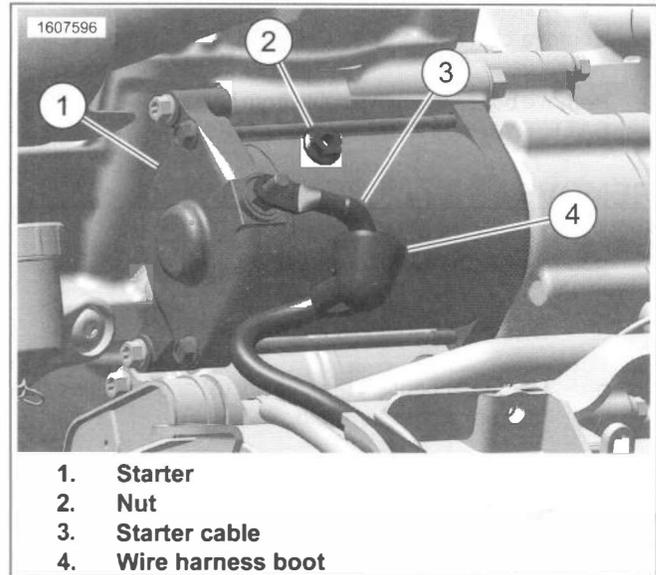
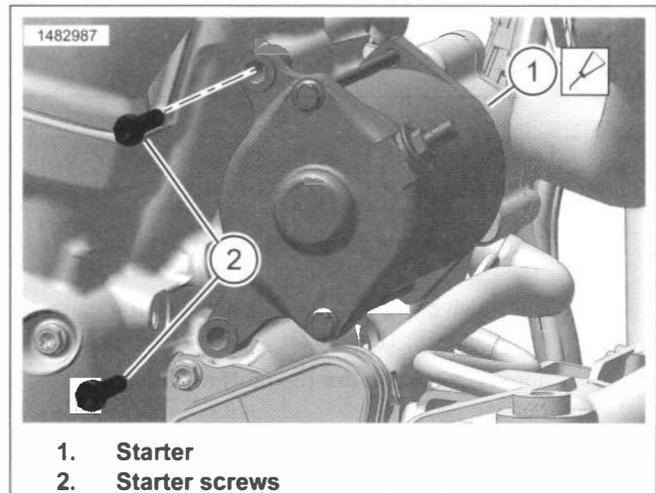

Figure 8-3. Starter Cable
Figure 8-4. Starter Screws
1. See Figure 8-3. Remove starter cable.
- a. Position wire harness boot (4) out-of-the-way.
- b. Remove starter nut (2).
- c. Remove starter cable (3) from terminal, position out-of-the-way.
2. See Figure 8-4. Remove starter screws (2).
3. Remove starter (1).
2. See Figure 8-4. Install starter screws (2). Tighten.
3. See Figure 8-3. Install starter cable.
- a. Install starter cable (3).
- b. Install starter nut (2). Tighten.